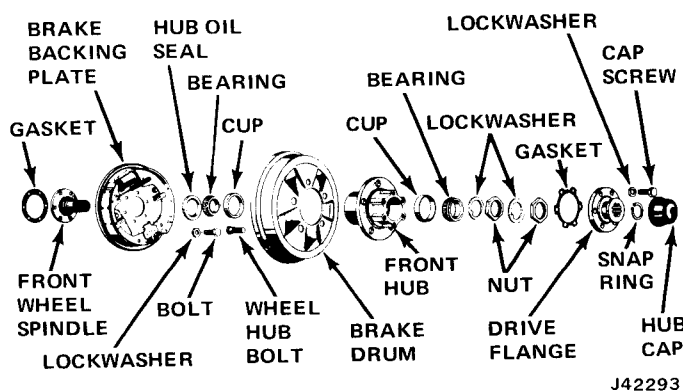

Fig. 9-43 Front Wheel and Hub Assembly—CJ Models
- (1) Remove hubcap, snap ring, capscrews, and washers that attach driving flange to hub (fig. 9-43).
- (2) Using Front Axle Shaft Drive Flange Puller J-25133, pull driving flange.
- (3) Bend lip of lockwasher and remove locknut and lockwasher.
- (4) Rotate wheel and tighten adjustment nut until wheel binds using Tool J-25103.
- (5) Back off adjusting nut about 1/6- to 1/4-turn. Be sure wheel rotates freely without lateral shake.
- (6) Install lockwasher and locknut and bend lockwasher lip.
- (7) Check adjustment.
- (8) Install driving flange and hub cap. Be sure gasket is installed between hub and flange.